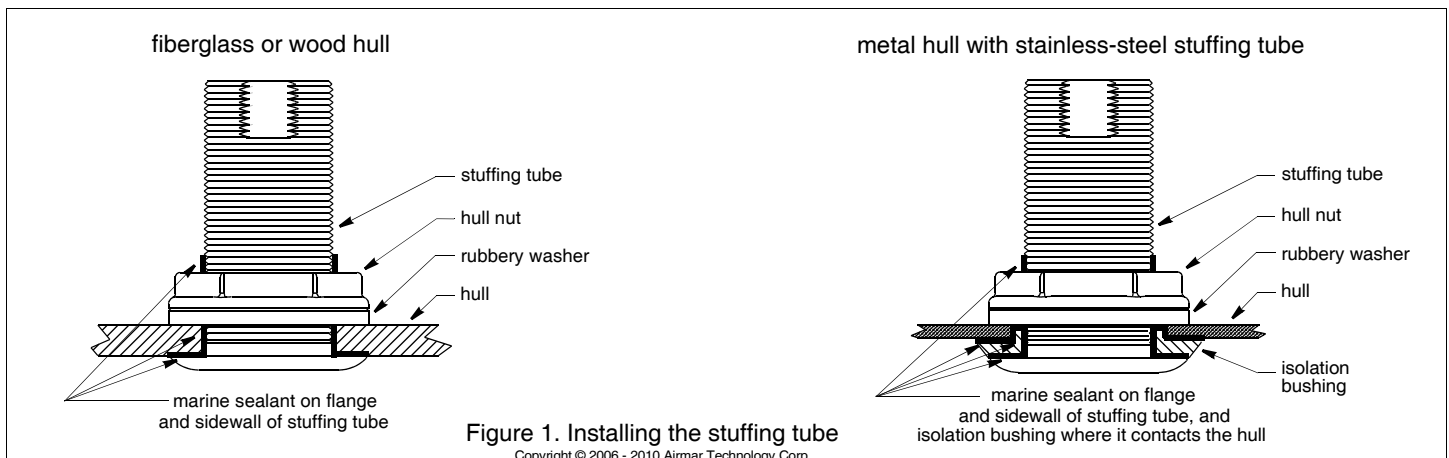

Figure 1. Installing the stuffing tube
6. Use marine sealant to seal the hull and hold the hull nut. Apply a 2mm (1/16") thick layer of marine sealant around the flange of the stuffing tube that contacts the hull and up the sidewall of the tube (see Figure 1). The sealant must extend 6mm (1/4") higher than the combined thickness of the hull, rubbery washer, and the hull nut.